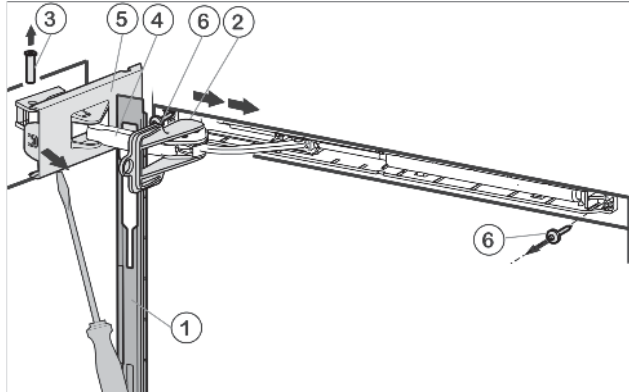

Fig. 53
- ▶ Push panel forward over the damper bracket *Fig. 53 (4)* in the direction of the appliance.
- ▶ Engage locking device *Fig. 53 (2)* into place inside oblong hole.
- ▶ Unscrew cover that is on the hinge side *Fig. 53 (5)* until the first notch using a screwdriver.
- ▶ Push bolt *Fig. 53 (3)* out from below.
- ▶ Press damper bracket *Fig. 53 (4)* in the direction of the door.
- ▶ Completely loosen cover that is on the hinge side *Fig. 53 (5)* and remove.
- ▶ Remove panel *Fig. 53 (1)*.
- ▶ Unscrew soft stop unit (2 x Torx 15) *Fig. 53 (6)*.